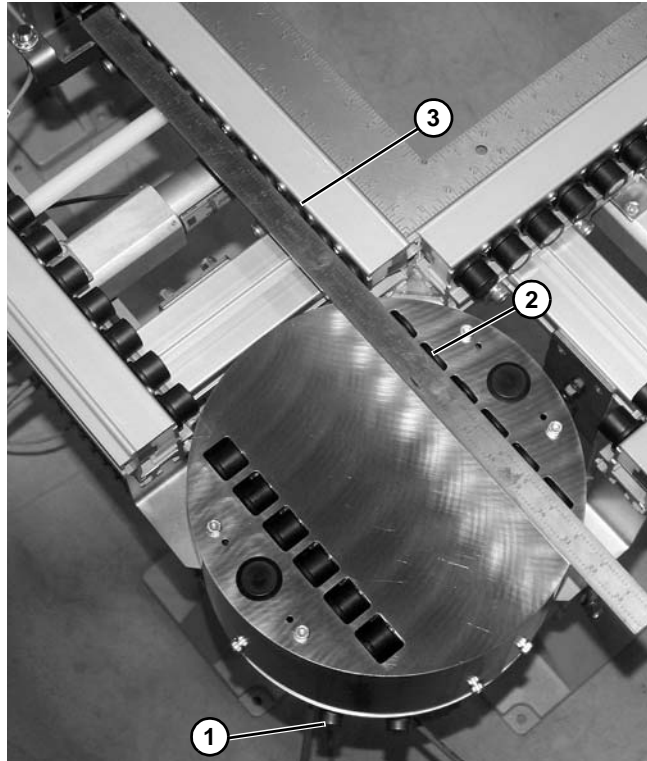

Figure 82
3. Repeat on opposite side to adjust clockwise rotational movement by rotating rod (**Figure 82, item 1**) left or right with an open-end wrench until turn and transfer unit rollers (**Figure 82, item 2**) are aligned with conveyor rollers (**Figure 82, item 3**). Tighten nut.